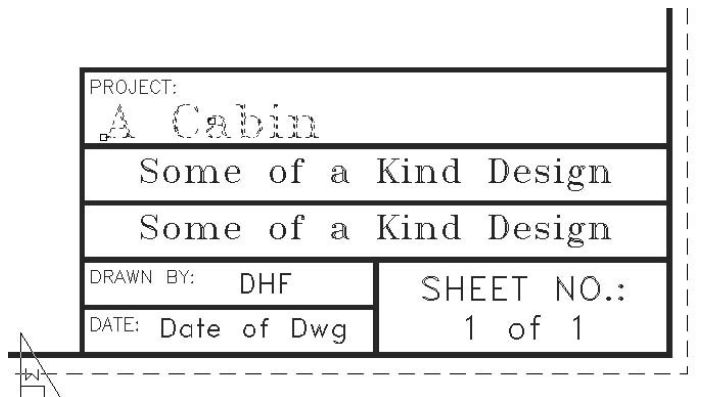

FIGURE B.18: Viewing the shortened project-name title text
7. Click one of the grips on the text, and use the Move option to move the "A Cabin" text to a position under the "PROJECT:" text, to see if it fits. You may have to move the "PROJECT:" text up a little (see Figure B.18).